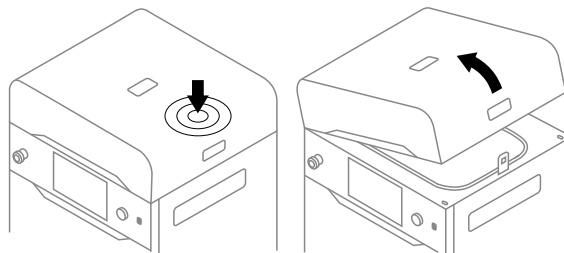

Fig. 10.2 Lifting the printer lid.
5. Push on the lid and pull it up using the handle (fig. 10.2).